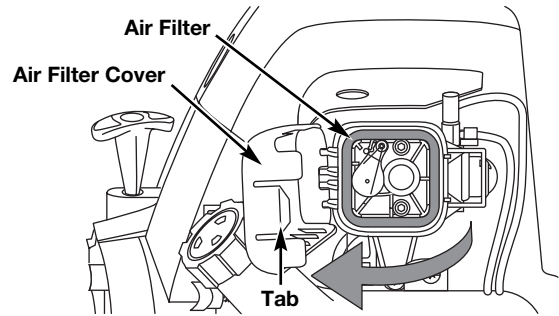

Fig. 28
1. Open the air filter cover. Push the tab on the right side of the cover inward. Then pull the air filter cover out and to the left (Fig. 28).
2. Remove the air filter (Fig. 28).